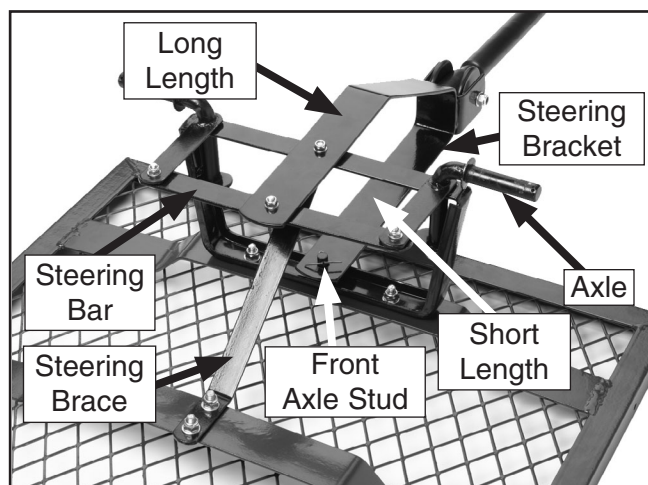

Figure 3. Front axle assembly.
2. Place the steering bracket (**Figure 3**) over the front axle so the longer length of the bracket lays over the top of the axle, insert the front axle stud (**Figure 3**) through the short length of the bracket, and secure with a cotter pin.
5. Place the steering bar under the steering supports and steering bracket, and secure with M6-1 x 16 hex bolts, flat washers, and lock nuts as shown in **Figure 3**.